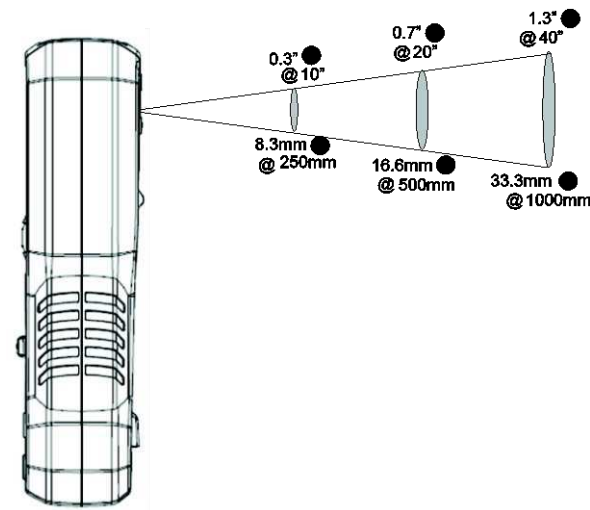

Fig. 7-2 Distance-to-Spot ratio 30:1
7. The Distance to Spot ratio for the imager is 30:1 meaning that the measurement spot is 30 times smaller than the distance the meter is from the spot (at a distance of 30", the meter 'sees' a target spot of 1"). See Fig. 7-2.